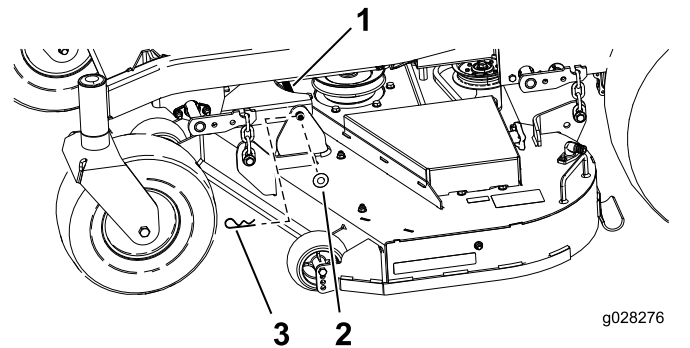

Figure 67
1. Remove the hairpin cotter and washer securing the link pin to the frame and deck, and remove the link bar (Figure 67).
9. Secure the link pin with the hairpin cotters and washers removed previously (Figure 67).